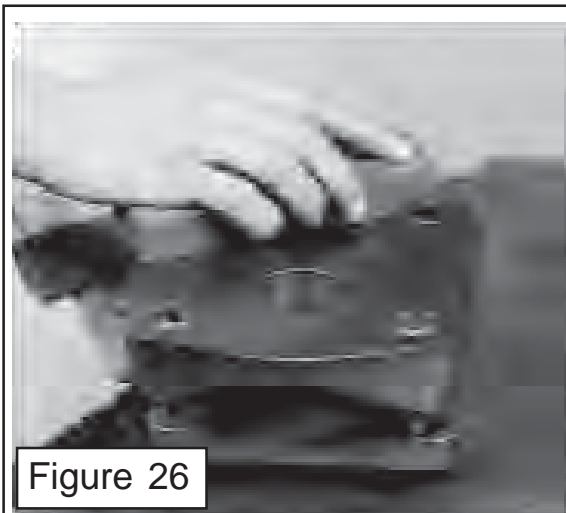

Figure 26
1. Check all the machined surfaces on all Motor components to make certain they are level and free of scratches. Minor scratches and slight un-level conditions may be fixed by using a Medium Grit Carborundum Stone. This must be done equal all the way across the face of the machine surface to keep it level (**figure 26**). **ALL part must be cleaned and dried if stone is used it.** If deep scratches or excessively un-level the section needs to be replaced, make certain this is checked before continuing installation of other components. Replace the parts with machined surfaces if required. Check components for wear or damage now before continuing.